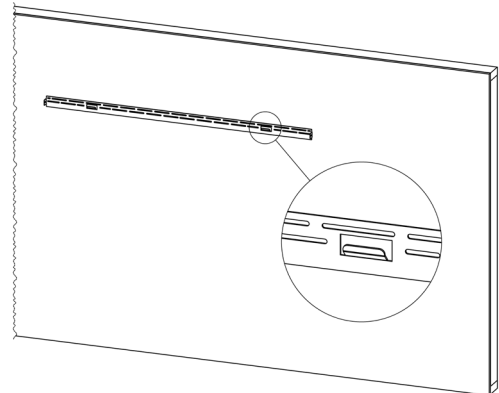

Fig.4-2
- This bracket **MUST** have the hooks facing upward and be level (Fig. 4-2).
- Additional support is provided by using the included wall anchors (B) between the studs.
- Install the wall bracket to the studs using #8 – 1-5/8" (A) screws and to the wall anchors with a #8 – 1" screws (C).